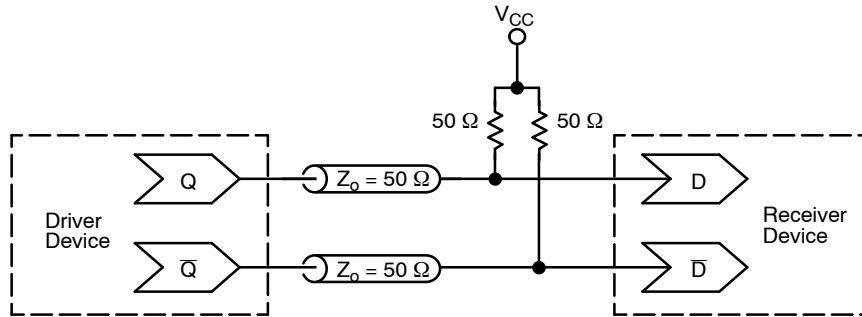

Figure 10. Typical Termination for Output Driver and Device Evaluation
4. CML outputs require 50  $\Omega$  receiver termination resistors to  $V_{CC}$  for proper operation (Figure 10).